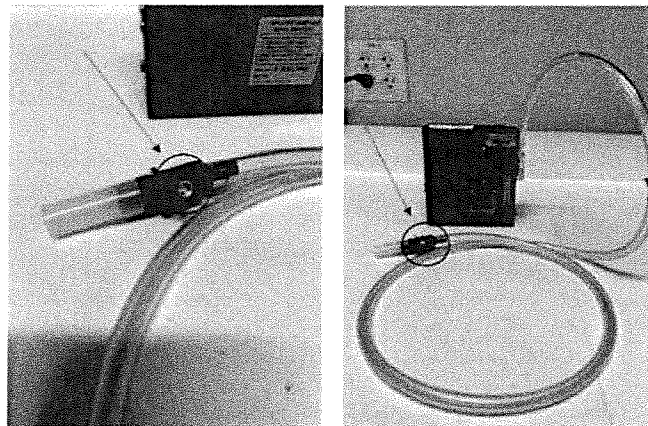

Figure 14. Low Flow SKC Pump
4.3.2.10 Adjusting flow on the chloropicrin sampler is done on the tubing directly above where the sorbent tube is placed. Place the screwdriver in the location shown below (Figure 14) and adjust flow. Make small turns with the screwdriver until flow has reached its desired range.